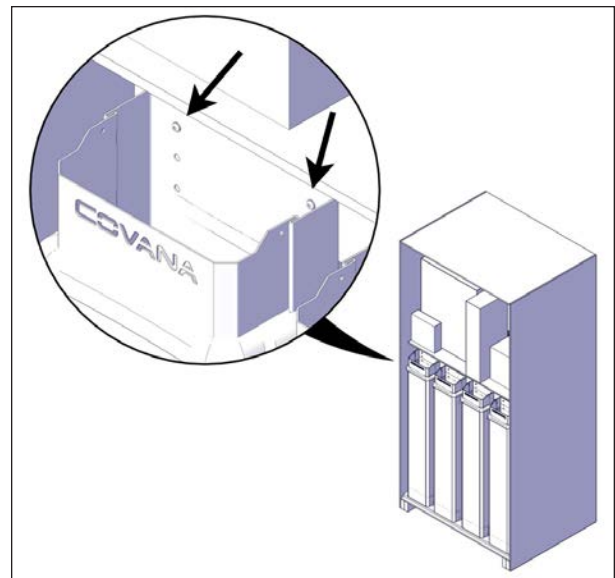

FIGURE 18: SLEEVE REMOVAL
7. Unscrew the two Robertson #8 x 1.5" screws holding the top of the sleeves – four sleeves: eight screws in total, see Figure 18